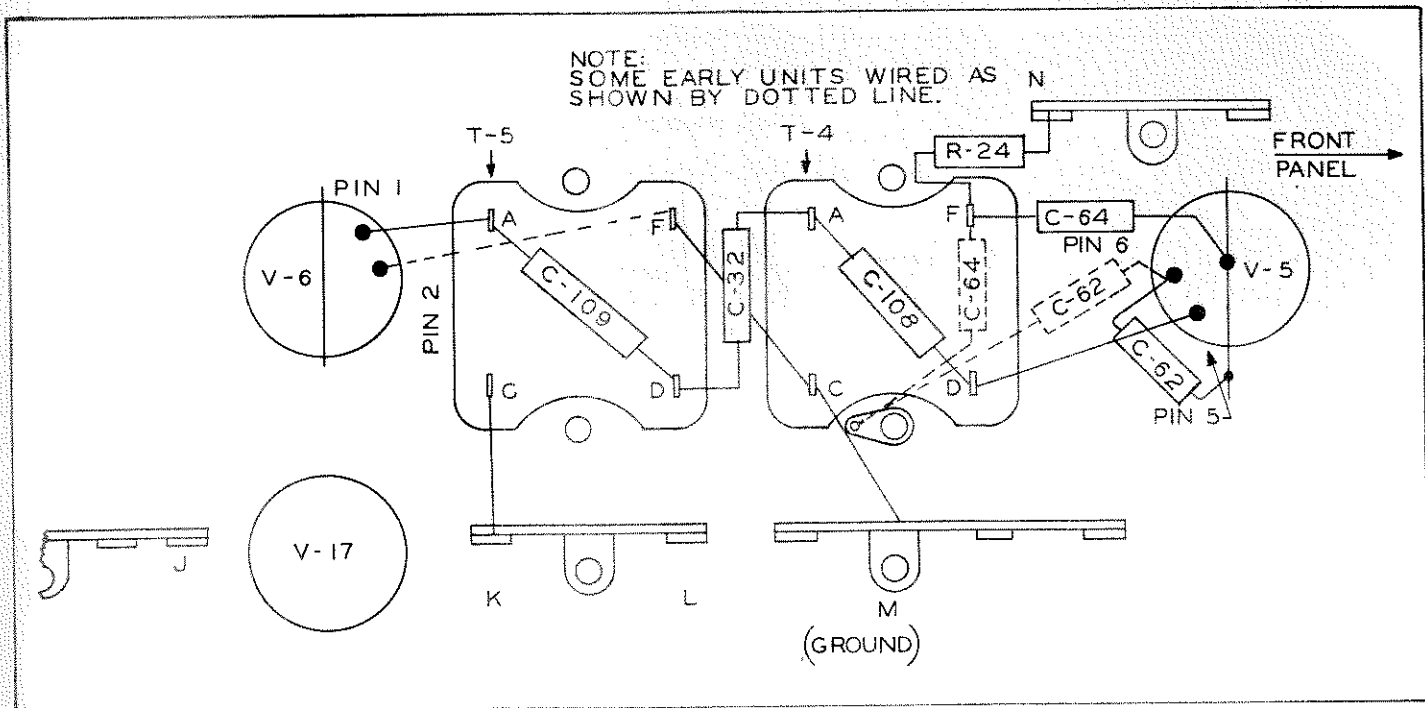

Figure 3. T-4 and T-5 Wiring Before Modification
4. Refer to figure 3, which shows the wiring of T-4 and T-5 before modification.
8. Unsolder and remove the lead that connects terminal C of T-4 to terminal F of T-5. Discard this lead. In some early sets terminal F of T-5 was grounded by a wire to pin 2 of V-6. See dotted lines of figure 3. Remove and discard this wire if present.
9. Unsolder and remove from terminal C of T-4 the lead which connects that terminal to the ground lug marked M in figure 3. Do not unsolder the end of the lead which connects to lug M.
10. Unsolder and remove from terminal C of T-5 the lead which connects that terminal to the lug marked K in figure 3. Do not unsolder the end of the lead which connects to lug K.
Early production had C-64 and C-62 grounded to a mounting bolt of T-4, it is advisable to move these grounds to the bottom shield across V-5. See the dotted lines of figure 3.